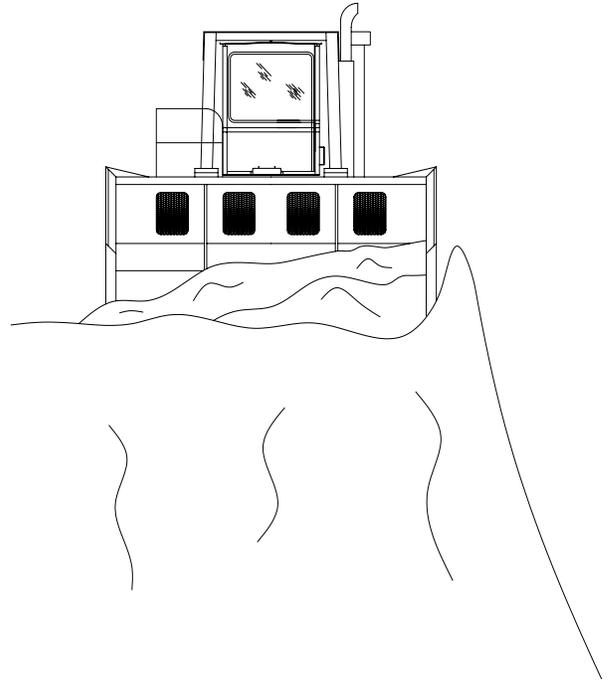

Fig. 5-14
1. When cutting on the edge of a pile, be certain to leave a sufficient berm. There are safety as well as practical reasons for this procedure. See Fig. 5-14